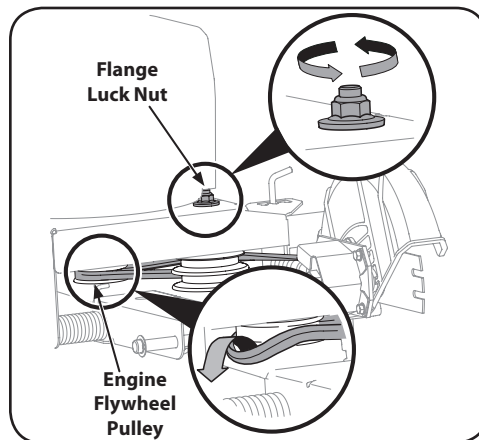

Figure 5-3
**NOTE:** To aid in reassembly, note the orientation of the drive belt on the two idler pulleys and the engine flywheel pulley prior to performing the following steps. Refer to Figure 5-3.
1. Working in front of the edger, loosen the flange lock nut on top of frame, allowing the idler pulley assembly to pivot slightly out from the frame. See Figure 5-3.
2. With your other hand, carefully reach under the rear of the edger and remove the belt from around the engine flywheel pulley. See Figure 5-3.